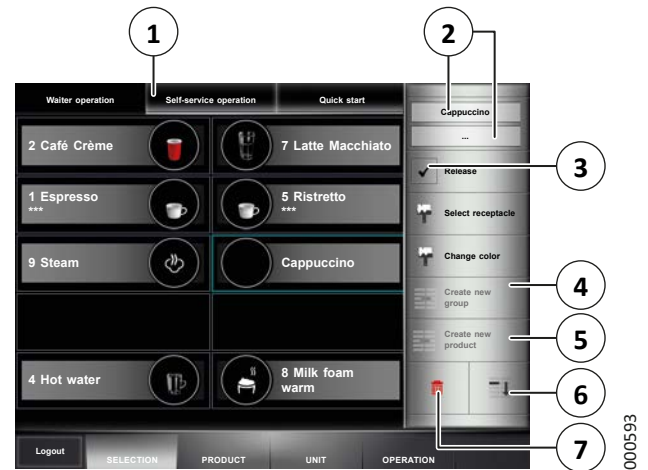

Fig. 31: Menu option “Selection”
4. Under “Language selection” (4), select the language that should be used for the name.
- Select a default name: Under “Category models” (2), select a category and then select a name from the list below (1).
- Enter your own name: Press the corresponding line (3) and enter a name using the screen keyboard (see chapter 7.2 on page 25).
7. Press the “Release” button (3) (see Fig. 31) to activate the created group for dispensing.
3. Press the “Create new product” button (5) (see Fig. 31).
5. Press the “Release” button (3) (see Fig. 31) to activate the created product for dispensing.
2. Press the “Down” button (6) (see Fig. 31) to move the product group or product button downward.
2. Press the delete symbol (7) (see Fig. 31).